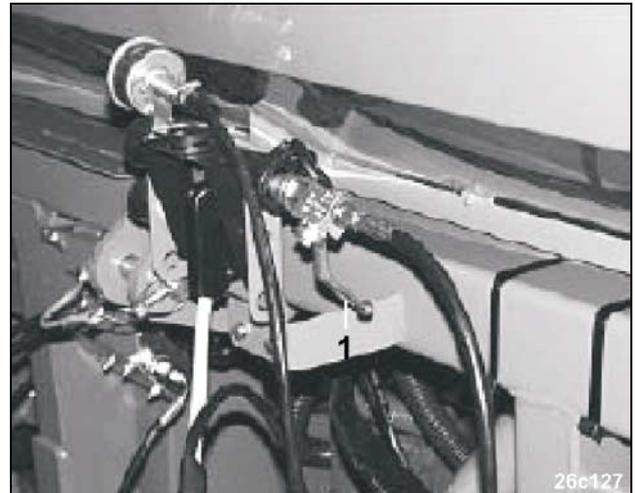

Fig. 132
- On machines with vertical track marker folding, shut block tap (Fig. 132/1).